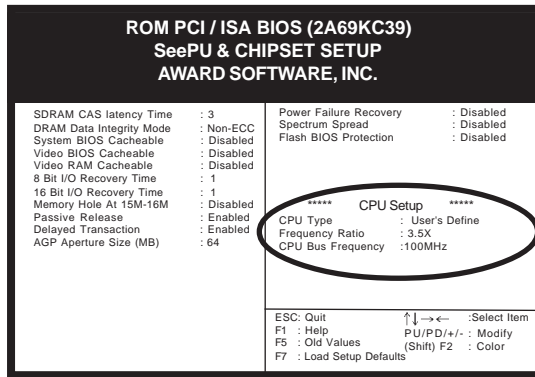

Figure 2-7
4. Use the User Define option to custom set your CPU's parameters. Set the frequency ratio (also known as external clock multiplier factor) and CPU bus frequency according to your processor's specifications. See Figure 2-7.